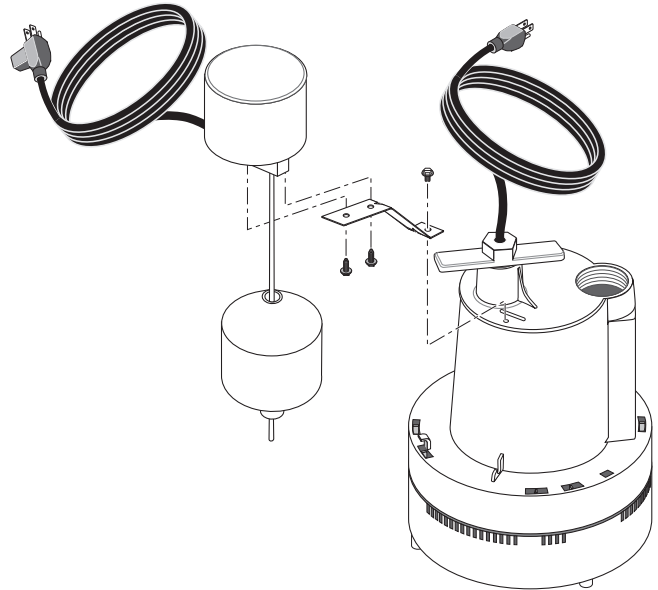

Figure 2: Vertical Float Switch Replacement.
- Mount the bracket on the switch housing with the bracket mounting screws. See Figure 2.